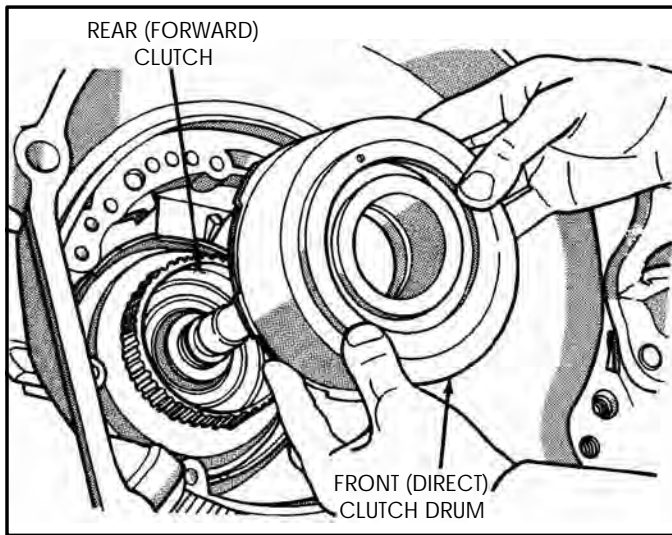

Figure 45
24. Remove front (direct) clutch drum assembly, as shown in Figure 45, and set the assembly aside for component rebuild section.